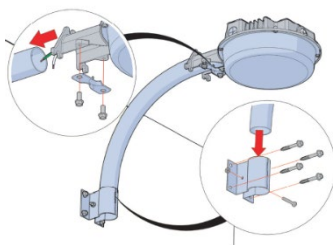

Figure 3
1. Assemble mounting bracket. (see Figure 3)